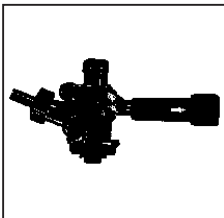

Fig. 7
Coupler and Beer Keg: Before making (opening) connection between the keg coupler and beer keg, make sure the beer tower faucet is in the closed position. (faucet handle straight back) To engage the tank connection, pull the keg coupler handle out and push down until it locks into position. Listen for positive "click" of the pull handle in the final downward position. **See Fig. 7**
- Pull keg coupler handle out and downward until it locks into position. **See Fig. 7** This activates both the beer and (CO₂) pressure line.